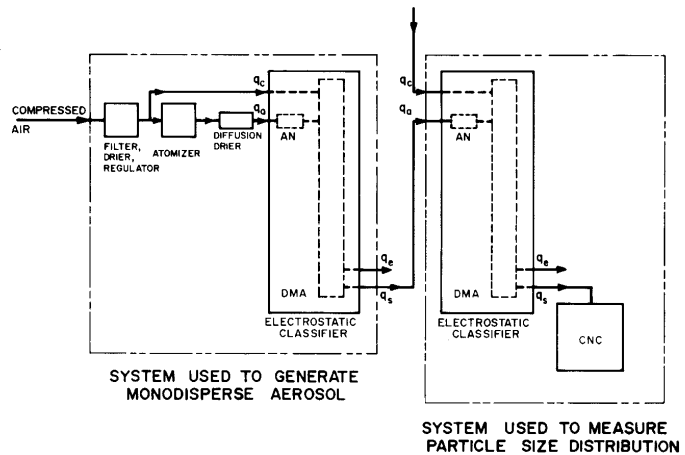
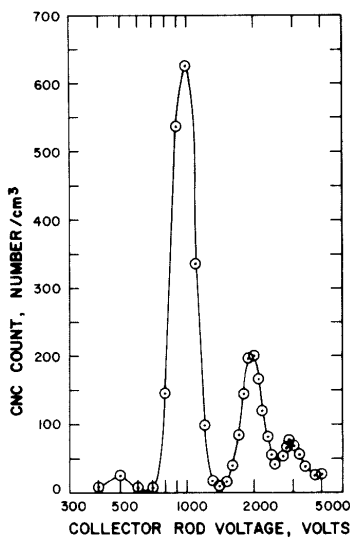

Figure 10. Schematic diagram of the system used to measure the size distribution of the aerosol. AN – aerosol neutralizer, DMA – differential mobility analyzer.
Figure 11. Particle concentration measured by the CNC vs. collector rod voltage of the second DMA.
Figure 10 schematically shows the experimental set up. Section II described the monodisperse aerosol generation system shown on the left. We generated 0.05 μm NaCl particles by selecting the operating parameters described in Section IV. The collector rod voltage of the first EC was
positive unit charges. We then measured the particle size distribution of this neutralized 'monodisperse' aerosol with a second DMA followed by a CNC as shown on the right side of Figure 10. The aerosol entered into the second DMA through the polydisperse aerosol entrance. The clean sheath air to the second DMA came from an external clean air source. The CNC measured the particle concentration of the aerosol exiting through the slit of the collector rod of the second DMA. For a given collector rod voltage setting, particles of a specific electrical mobility exit through the slit. Equation 3 shows the relationship between the collector rod voltage and the particle mobility. We varied the collector rod voltage over the entire range for which the CNC could detect any particles. Figure 11 shows the relationship between the collector rod voltage and the CNC count. We observe four (4) distinct peaks. Table III shows the particle mobility corresponding to the collector rod voltage at which
Figure 11 shows the relative particle concentration of the singly-charged fraction of 0.05 μm , 0.074 μm , and 0.091 μm particles that exited from the second DMA. Table II shows that 19.24% of the 0.05 μm particles entering the second DMA were singly-charged. The true particle concentration of the 0.05 μm entering the second DMA can be obtained by dividing the measured peak concentration by 0.1924. The calculated true particle concentrations of 0.05 μm , 0.074 μm and 0.091 μm particles are shown in the last column of Table III. Table III shows that the generated aerosol consisted primarily of 0.05 μm particles. The percentage of 0.074 μm and 0.091 μm particles are small. The interference effect of these larger particles can be accounted for by a procedure similar to the one described in Section III.